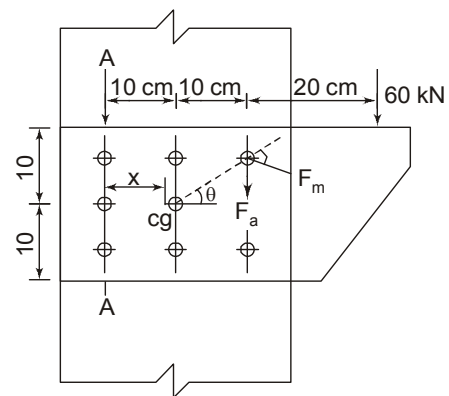

Fig. 3
9. (a) What do you understand by the term 'curing'? Why is it essential to cure concrete? What are the various methods commonly adopted in curing? (15)
- (b) Discuss in detail "placing of concrete in cold and hot weather". (15)
10. (a) A reinforced concrete beam 400 mm × 650 mm (effective) in section is reinforced with 3 bars of 28 mm φ. If the effective span is 5 m, find the concentrated load the beam can support at the centre. Assume M 20 concrete and Fe 250 steel ($n = 13.33$). (15)
- (b) Design a column to carry a load of 590 kN. Height of the column is 3.5 m effective, one side of the column is restricted to 250 mm. Use $\sigma_{cc} = 5 \text{ N/mm}^2$, $\sigma_{sc} = 190 \text{ N/mm}^2$ and 10 mm φ lateral ties. (15)
11. Design a cantilever slab to carry a superimposed load of 4188 N/m². The overhang of the slab is 1.2 m. Adopt M 20 concrete and Fe 415 steel. (30)
12. (a) What are the advantages and disadvantages of welded joints? (12)
- (b) Determine the maximum load in the rivets of the eccentric connection shown in Fig. 3. (18)